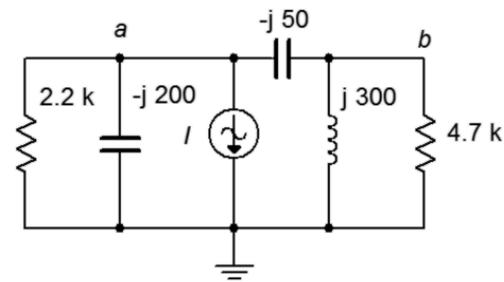

Figure 4.16
25. For the circuit of Figure 4.16, determine voltages  $v_a$  and  $v_b$ .  $I = 25$  mA.
26. For the circuit of Figure 4.16, determine the currents through the two capacitors.